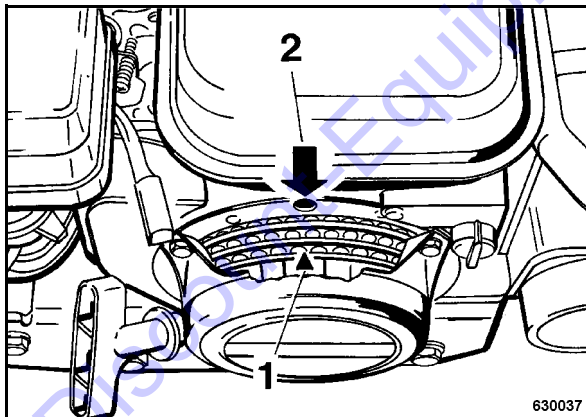

Fig. 50
- For this purpose align triangle mark 1 (Fig. 50) on the starter disc to the top bore (2).